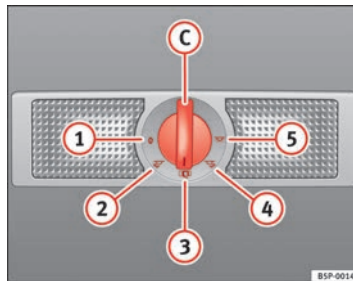

Fig. 82 Interior roof trim: rear interior lights and reading lights.
The switch \Rightarrow Fig. 82 (C) is used to select the following positions:
In switch position \Rightarrow Fig. 82 (1), the interior and reading lights are switched off.